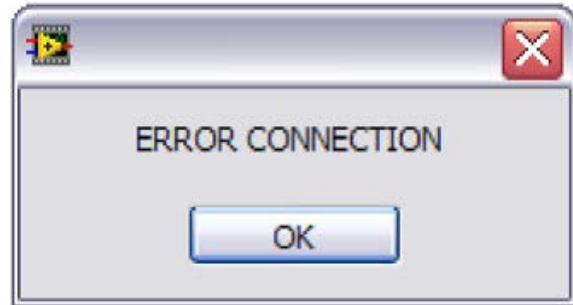

Figure 3. **ERROR CONNECTION** Window
3. If the EVAL-SDP-CB1Z board does not connect to the PC, the **ERROR CONNECTION** window appears, shown in Figure 3. Check the connection between the EVAL-SDP-CB1Z and EVAL-AD5541A board or EVAL-AD5542ASDZ board and run the program again.